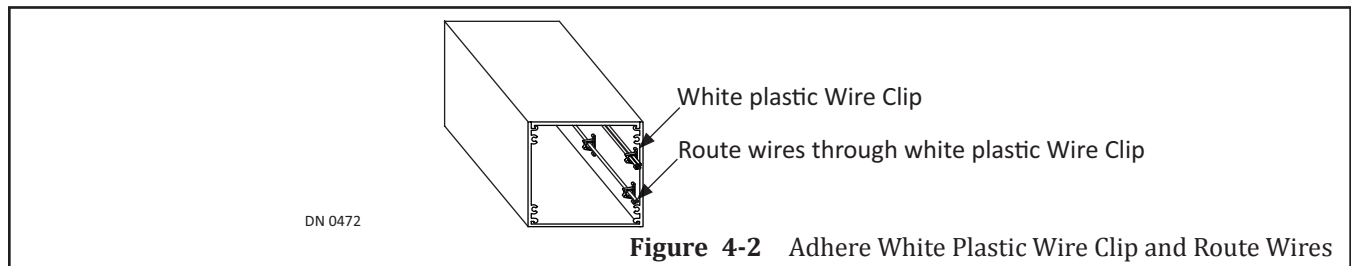

Figure 4-2 Adhere White Plastic Wire Clip and Route Wires
1. Obtain (self sticking) white plastic Wire Clips provided by NABCO. Please see Figure 4-2.